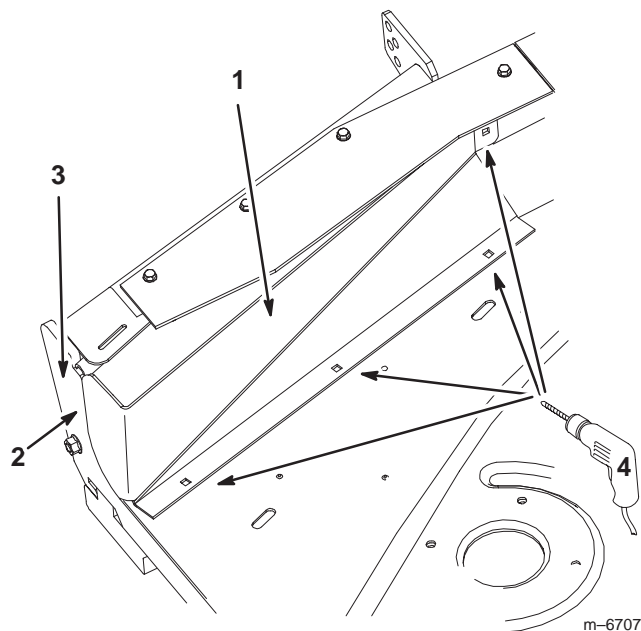

Figure 5
1. Place the front tunnel baffle against the front wall of the discharge tunnel (Fig. 5).
2. Align the front baffle, flush with the outside of the mounting bracket (Fig. 5).
4. Using the baffle as a template, center punch and drill 4 holes (11/32 inch dia.) into the mower (Fig. 5).